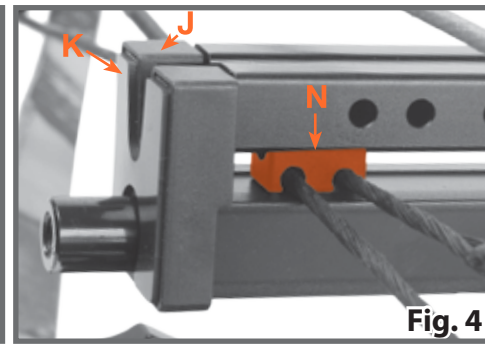

Fig. 4
2. Slide the cable slide into the opening at the end of the barrel while sliding the string down the top of the rail. (Fig. 4)
3. Attach the Joint Cap Pad to the Joint Cap. Slide the Joint Cap onto the barrel. (Fig. 4)